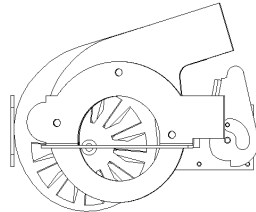
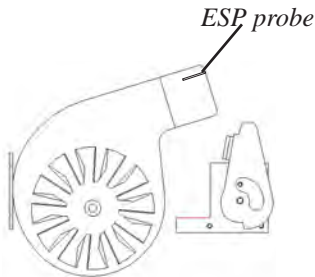

Fig. 32
Fig. 33: Exposed blower wheel and flue opening, NOTE: ESP probe is visible.
6. Remove the combustion blower cover by turning the blower cover latch vertical as shown in fig. 32. Slide the cover out of the slot on the left. This will expose the combustion blower wheel and flue outlet, fig. 33.